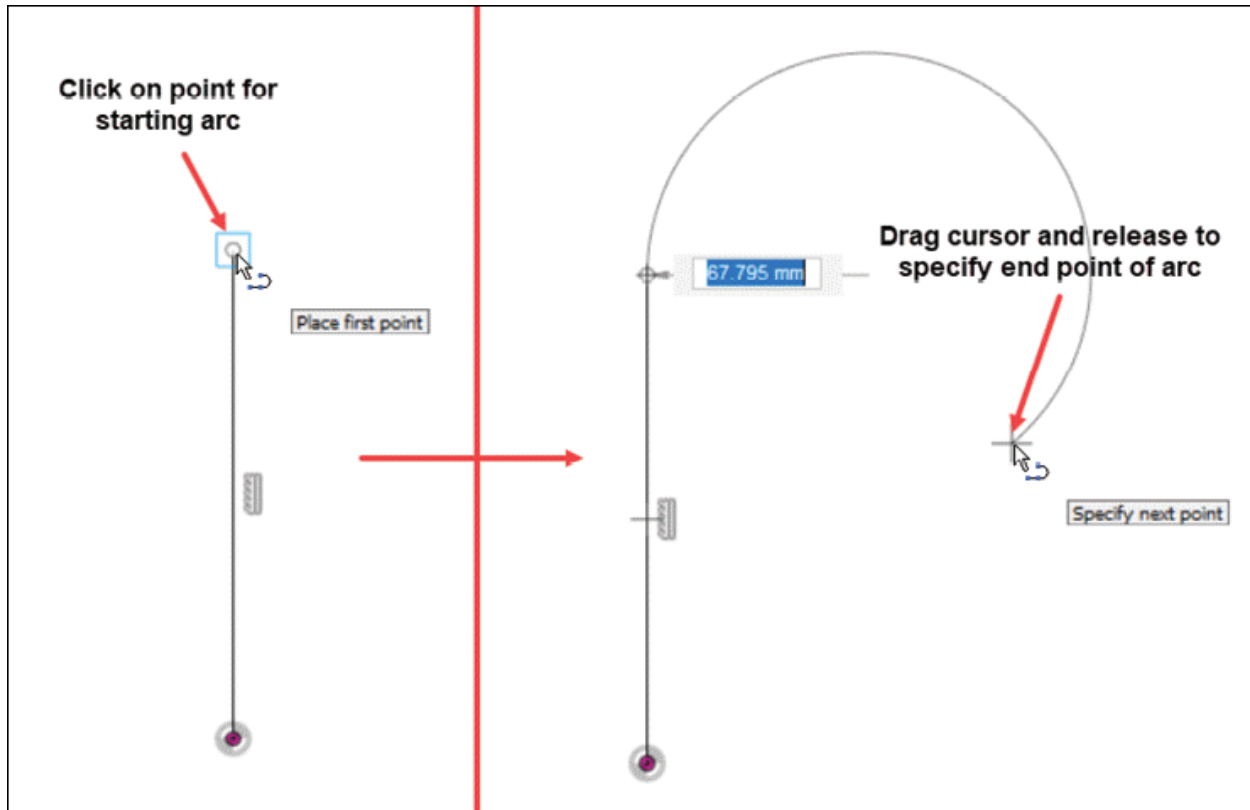

Figure-8. Creating line arc
- Click on the end point of a line or curve to define start point of arc, hold the **LMB** (Left - Mouse Button), and drag to the point where you want to specify the end point of arc; refer to Figure-8.